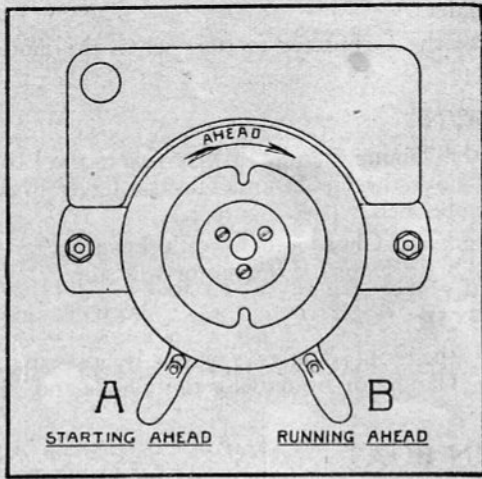

Figure 2
6. Place Timing Handle of magneto in position "A" (see Figure 2) about 30 degrees left of center position. (For starting in REVERSE, place it in position "B".)
9. Move the Timing Handle of Magneto to the RIGHT to about position "B" or about 30 degrees to the right of center position. (See Figure 2.) The Timing Handle should be set where motor runs highest speed, but not beyond that. This is "Full Speed" position. A little experience will show you how to set it so the motor will run best.
FIRST, move the Timing Handle of Magneto to the LEFT slightly beyond position "A", then move the Choke-and-Throttle Lever backward slowly until the desired speed is obtained. (See Figure 2.)